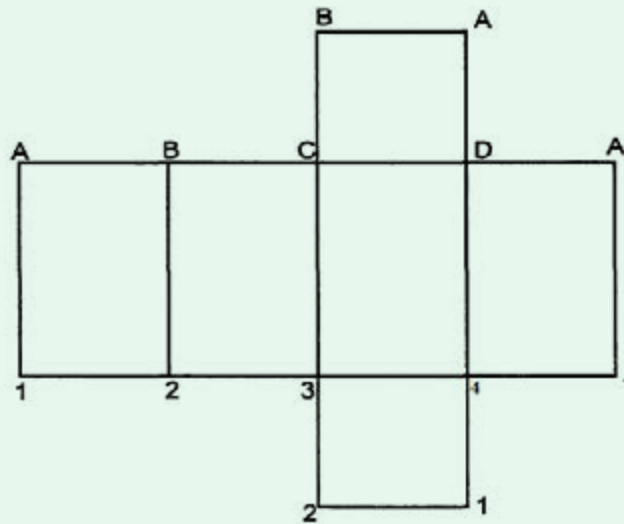

Fig. 3.19: The development to be cut-out for making of the box (Venkata, 2008)
Step 4: Now let us cut out the edges of the developed surface as shown below in Figure 3.19. Be sure to cut along the path A-B-C-B-A-D-A-1-4-1-2-3-2-1-A